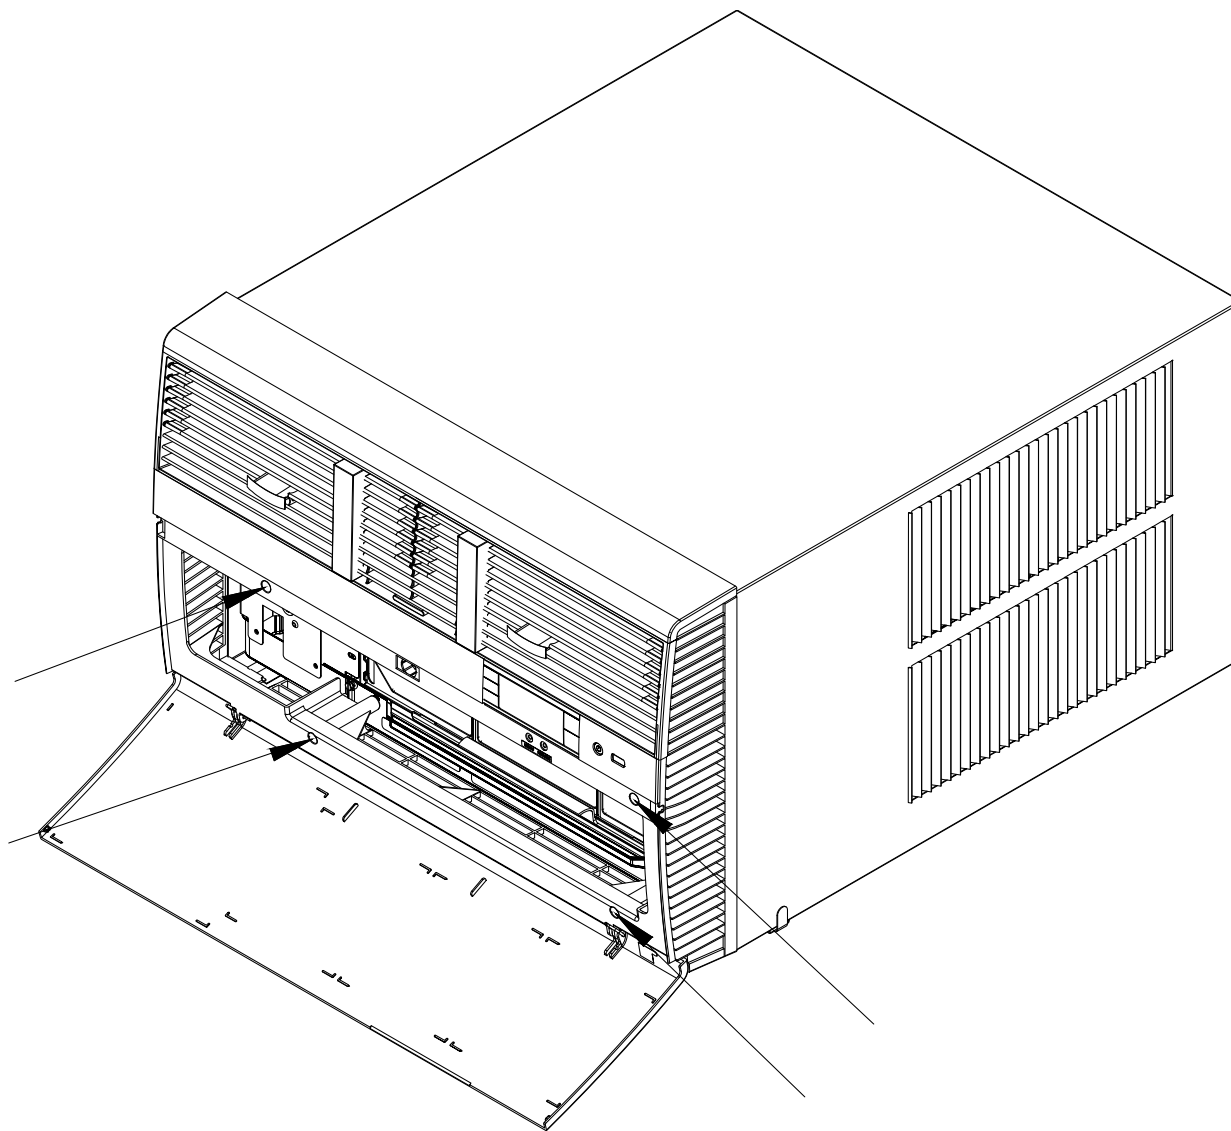

Figure 401 (Remove and Install the Front Cover)
1. Using a 1/4" nut driver loosen the four (4) captive screws as shown in figure 401
STEP 14. To attach and prevent damage to the front grille, align the cord notch over the cord and center the fresh air lever, then align and tighten the four (4) captive screws as indicated by the arrows in Figure 401 before closing the front panel, be sure the filter is in place. Make sure curtains do not block the side air intakes.